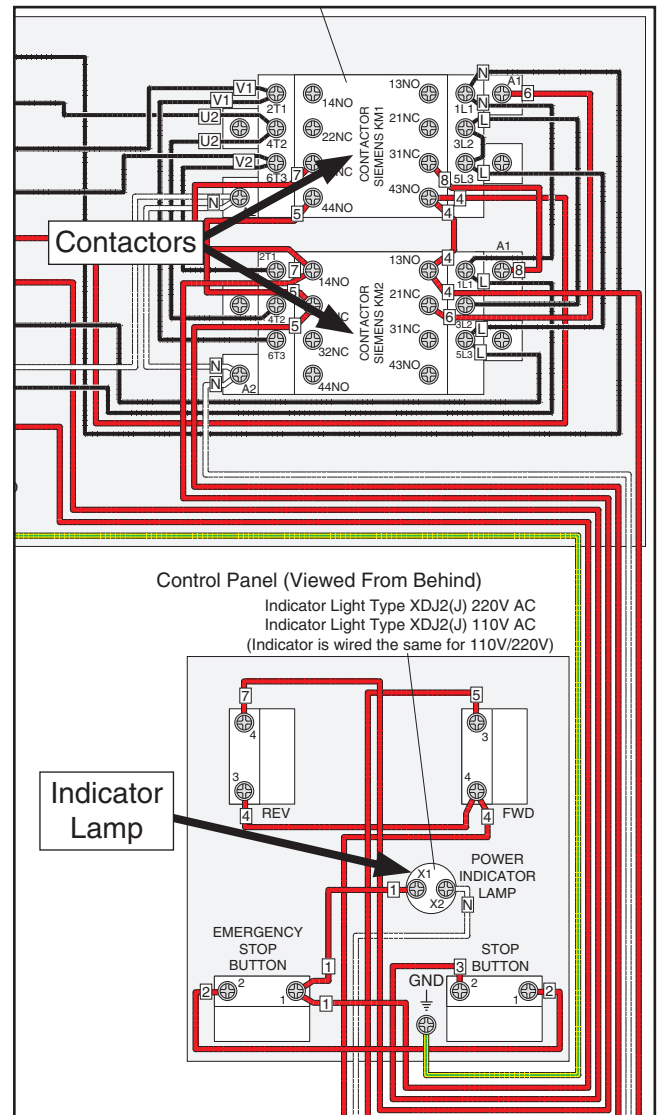

Figure 5. Partial wiring diagram.
3. Use a Phillips screwdriver to remove all of the wires that connect to the two contactors shown in **Figures 5 & 6**. If any of the wires are not clearly labeled, label them before removing to ensure that they will be replaced in the proper locations. Refer to **SECTION 8: WIRING** starting on **Page 45** for detailed wiring diagrams.